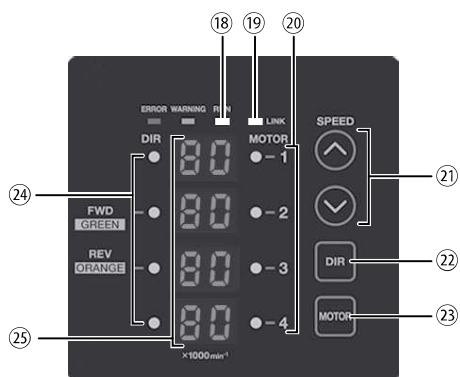

Fig. 22 SELECTOR Control Panel
- (1) Set Motor Selection (Set the Motor Selection Button (MOTOR) ②③ of the Fig. 22 SELECTOR Control Panel.)
- (2) Set Motor Rotating Direction (Set the Rotation Direction Button (DIR) ②② of the Fig. 22 SELECTOR Control Panel.)
- (3) Set 500 min⁻¹ (rpm) Centering Rotation.
(Set the Motor Speed Adjustment Button (SPEED ⬆ , ⬇) ②① of the Fig. 22 SELECTOR Control Panel.)
- (5) Setting Motor Speed (Set the Motor Speed Adjustment Button (SPEED ⬆ , ⬇) ②① of the Fig. 22 SELECTOR Control Panel).
(5) Setting the Motor Speed
- Motor Speed Range is 1,000 - 80,000 min⁻¹ (rpm). Limit the motor speed depends on motor and spindle model. Setting parameter **P2**, allows the Motor Speed to be adjusted in Auto Mode using the Motor Speed Adjustment Button (SPEED ,) ⑪ of the Fig. 22.